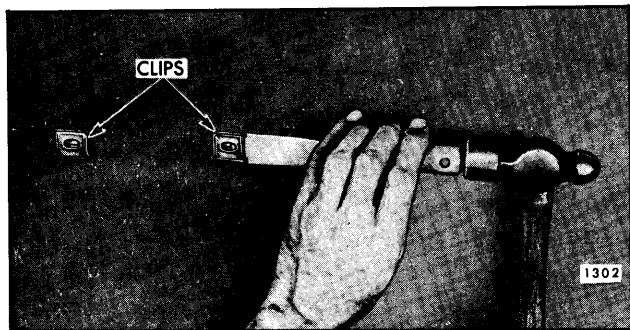

Fig. 17-4—Removal of Bath-Tub Type Molding Clip
1. Insert sharp edge of flat-bladed tool, such as a putty knife, under edge of clip and hammer tool until base of clip is cut approximately half-way through (Fig. 17-4) then disengage clip from hole.